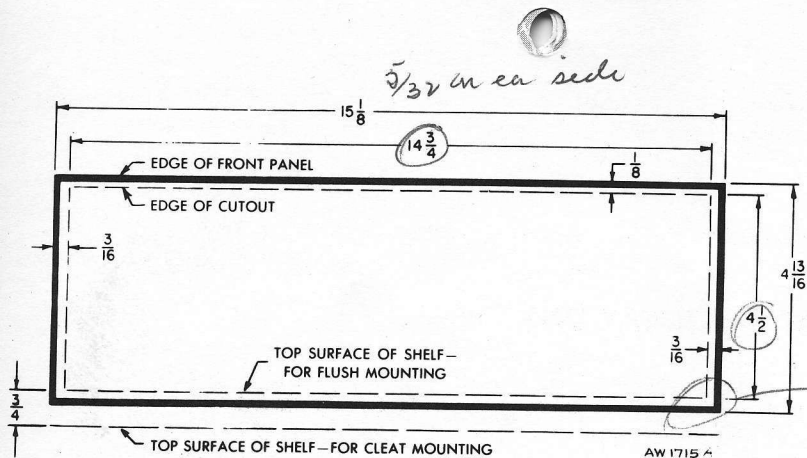

FIGURE 4. Front panel cutout for mounting
- 3—Saw a cutout through the front panel of your cabinet ($4\frac{1}{2}$ inches by $14\frac{3}{4}$ inches) as shown in Figure 4. The bottom edge of the cutout should be on a level with the top of the two cleats.
- 3—Saw a rectangular cutout through the front panel of the cabinet ($4\frac{1}{2}$ inches by $14\frac{3}{4}$ inches) as shown in Figure 4. **IMPORTANT:** Note that the bottom edge of the cutout is flush with the top of the mounting board.